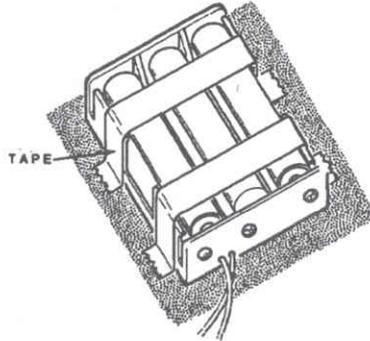

Figure 4-8
4. Refer to Figure 4-8 and use electrical tape, or something similar, to secure the ends of the batteries in place. This will help reduce the possibility of the batteries becoming dislodged when you transport the Controller from one place to another.